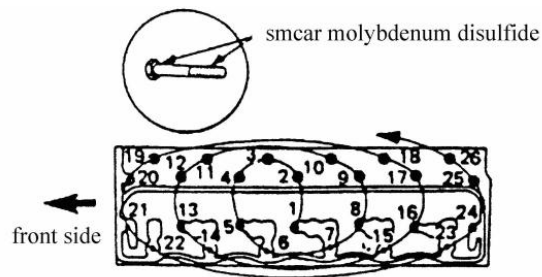

Fig.1.11
- (1) Tighten the bolt with 68Nm twisting moment by the order of Fig 1.11.
- (2) Tighten the twisting moment to 93Nm, then tighten the bolt orderly.
- (3) Turn the bolt 90 degree and tighten them.